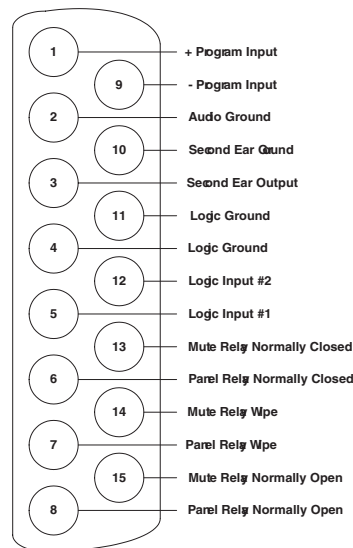

Figure 2-6: Miscellaneous Connector Pinout
2. Connect a shield or ground connection if available to the connector's pin 2 (see Figure 2-6 on page 1-4).
Use normally open type switches to activate the logic inputs. Connect the switches as follows (Figure 2-6 on page 1-4):
The mute relay is activated whenever any talk selector is activated at the panel. The mute relay is commonly wired such that whenever it is activated, the volume of the monitor speaker in that room is decreased (muted). See Figure 2-6 on page 1-4.
The relay can activate an external device, such as an applause light in a studio, a cue light, or a security door lock. Any programmable relay in the system can be activated from any panel in the system, including a direct-inward-access caller. Figure 2-6 on page 1-4 shows the wiring of the relay contacts to the Miscellaneous connector.